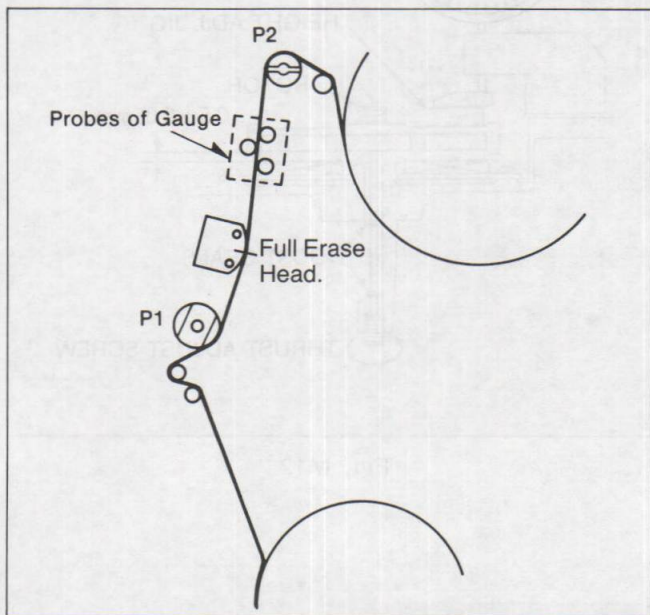

Fig. M5 Measurement of Back Tension
2. Insert the Back Tension Meter into the path of a tape, and measure the back tension to be within specification as shown in Fig. M5.